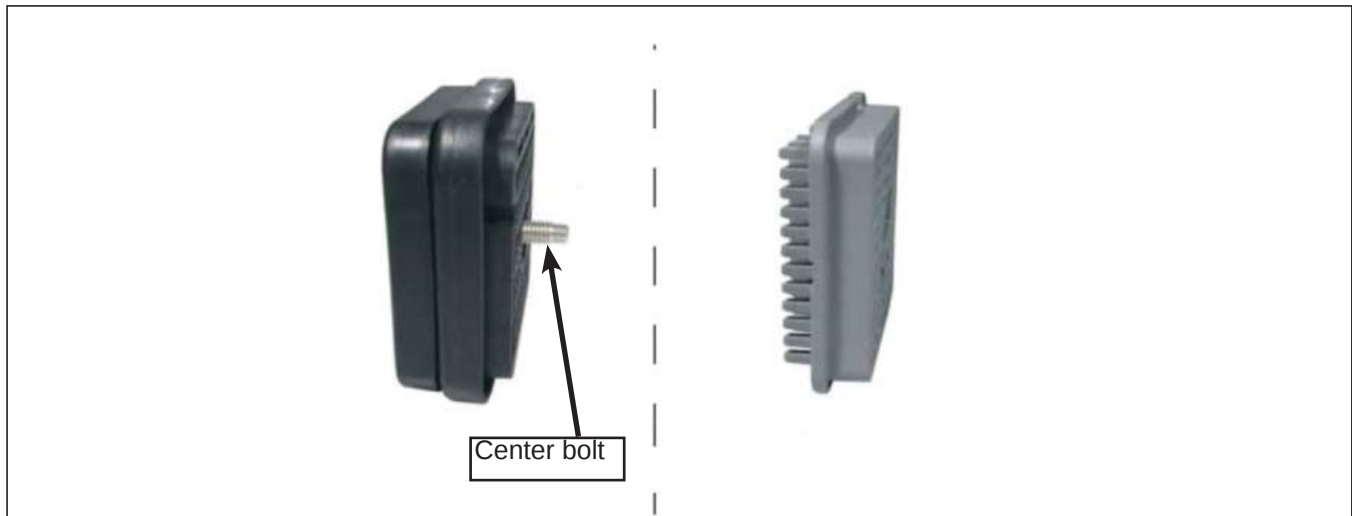

Figure 3 - X6499A Connector
- 1.4. Remove center bolt on connector X6499A, remove wedgelocks and connect cable N80191 white wire to pin 85 and black wire to pin 86 of X6499A connector (see Figures 3 and 4).